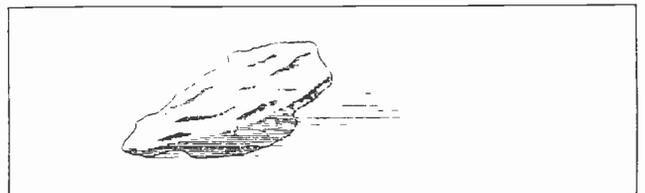

Fig. 1. Sketch of natural magnet or lodestone.
71. **NATURAL MAGNETS** were first found in Magnesia, a country in Asia Minor, about 600 B. C., and for this reason were called magnetite or magnets. (See Fig. 1.)